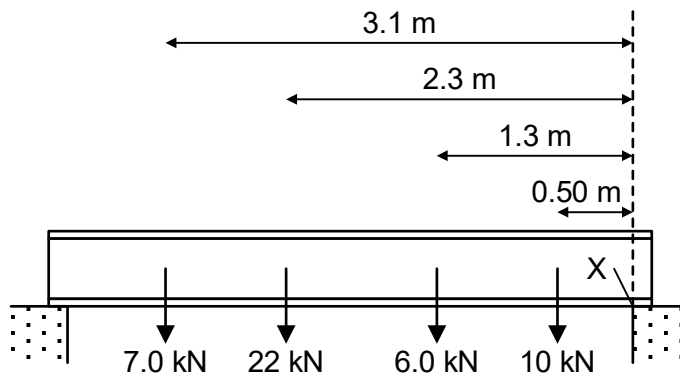

Fig. 7.6
- (d) A beam across a gap is shown in Fig. 7.6, together with values of the forces acting on it and their distances from point X.